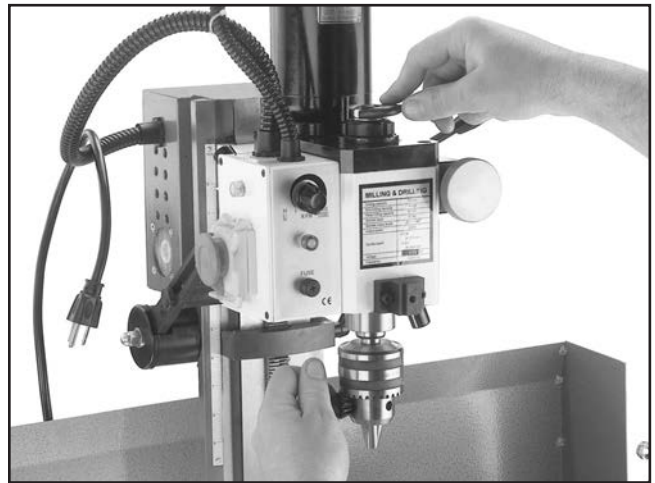

Figure 54. Removing mill/drill spindle lock nut.
3. Use a 19mm wrench, as shown in **Figure 54**, to remove the spindle draw nut.